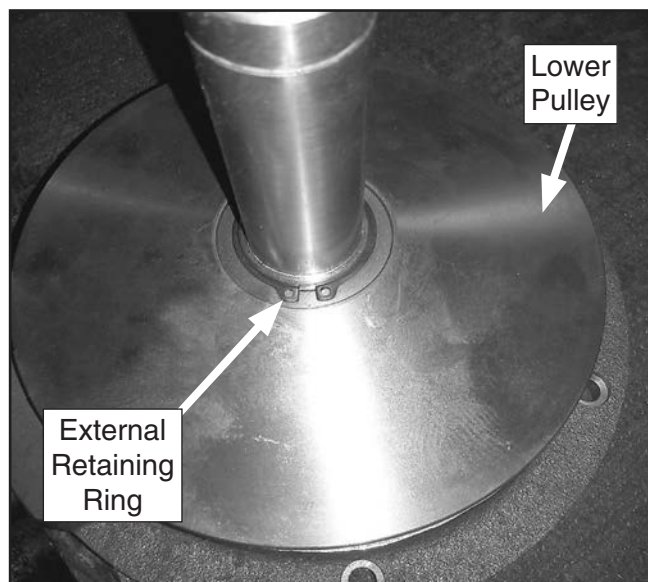

Figure 104. Upper pulley removed to expose retaining ring and lower pulley.
11. Remove external retaining ring that secures lower pulley to shaft (see **Figure 104**).